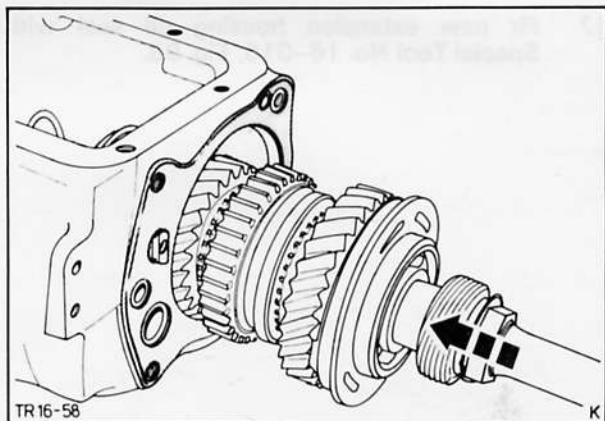

Fig. 95. Fit mainshaft
42. Insert complete mainshaft in gearbox casing, Fig. 95.